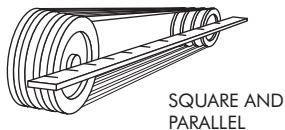

Figure 6
- B. Align sheaves square and parallel by placing a straight edge across the face of the sheaves, Figure 6.